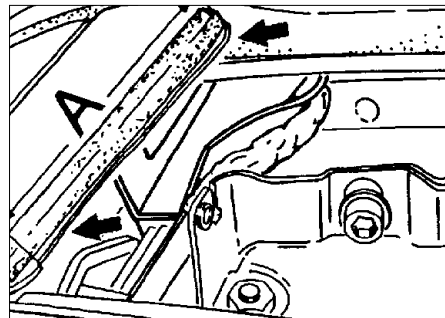

Figure 8
- Trim the wind deflector seal lip on the left and right sides (arrows, figure 8) for a length of 115 mm (dimension A in figure 8). Approximately 1 mm should be removed. This will eliminate the possibility of the sealing lip touching the air deflector bracket causing water to run over the seal onto the air deflector bracket and into the passenger compartment.